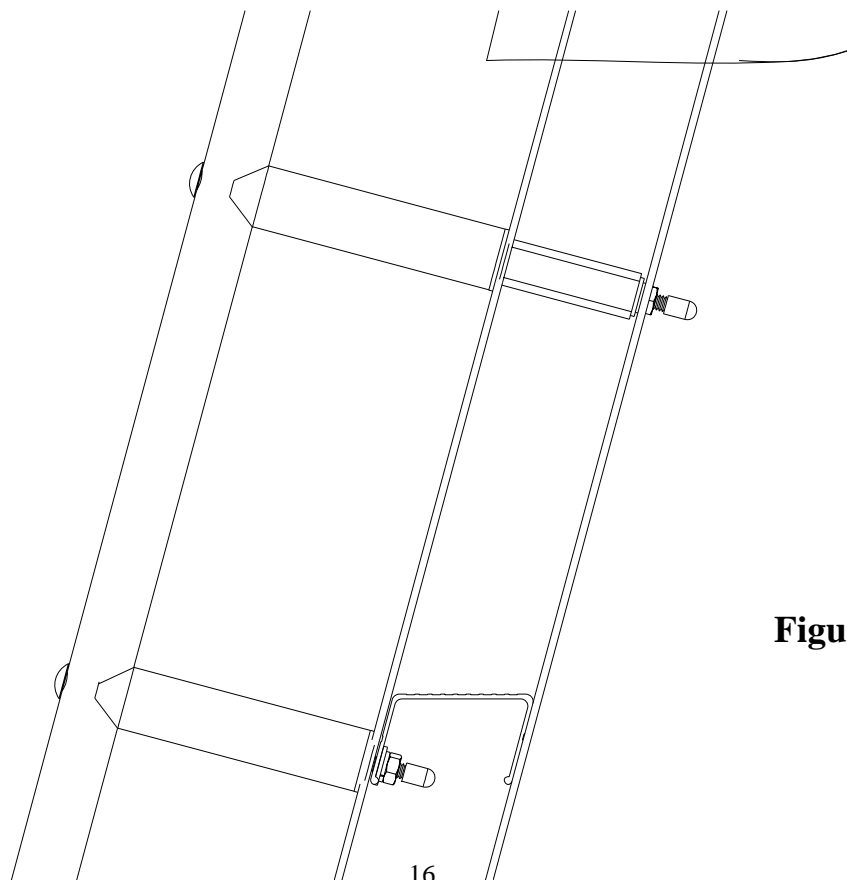

**Figure 22**
- 23)** If necessary the legs can be adjusted up and down within the leg sockets to help adjust for level. Once the slide is properly leveled the legs shall be permanently attached by drilling a 1/4" hole into each leg using the hole on the leg socket as a guide and fastening with a (#10) 5/16" Hex Head Washer Tek Head Screw. See Figure 22.